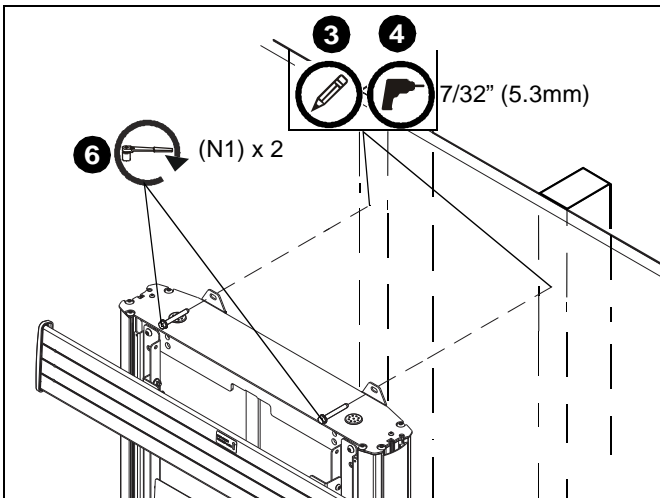

Figure 1
2. Place column assembly against wall making sure to line up attachment brackets with studs. (See Figure 1)
3. Mark hole locations at each mounting location. (See Figure 1)
4. Drill two 7/32" holes at marked hole locations. (See Figure 1)
6. Install two 5/16 x 2 1/2" hex head cap screws (N1) through holes on attachment brackets and into drilled holes on wall. (See Figure 1)